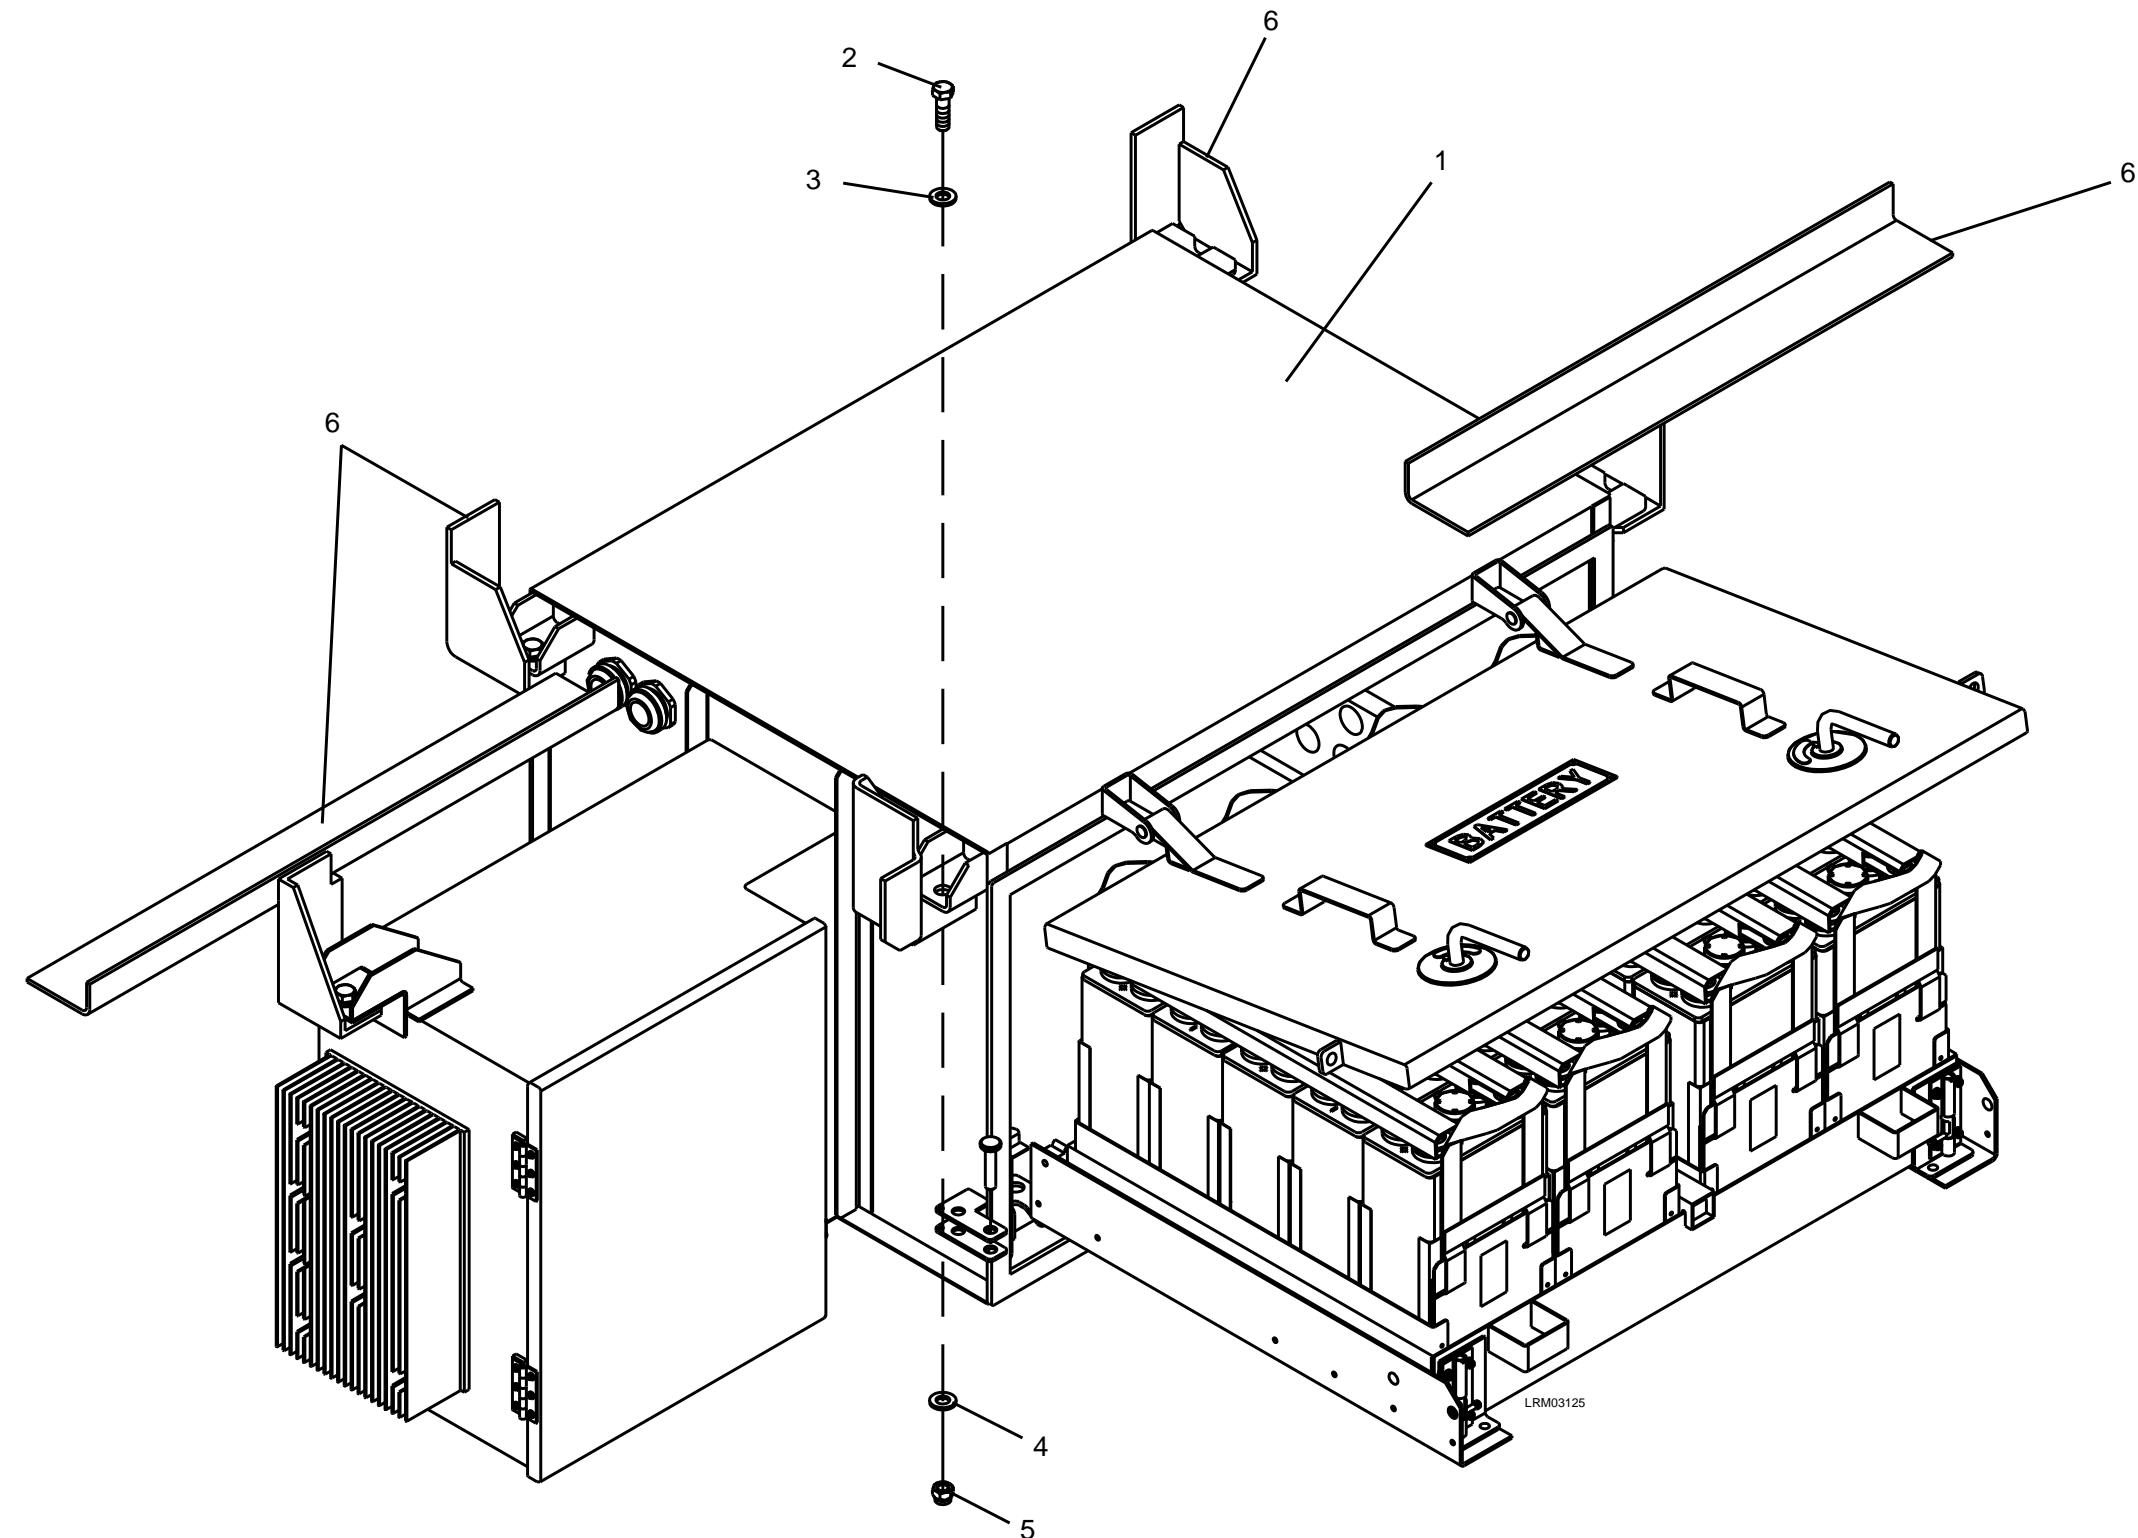

Figure 7-111: Battery Box
1. Remove the five M12 hex nuts (5), M12 plain washers (4), M12 x 40 bolts (2), and M12 plain washers (3). See Figure 7-111.
2. Carefully remove the Battery Box (1) from car body brackets (6).